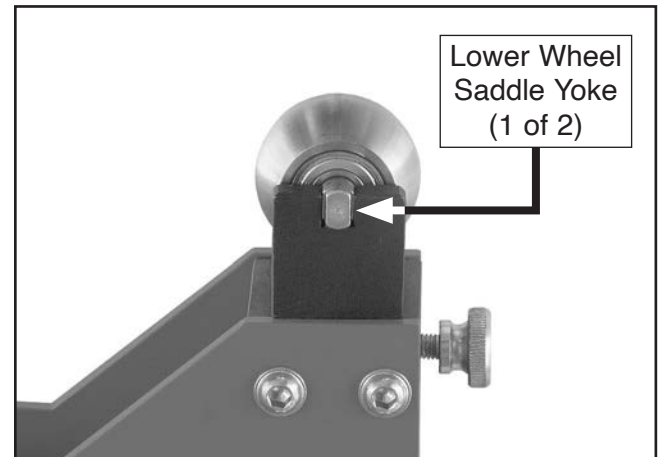

Figure 14. Lower wheel axle fully seated in saddle yokes.
2. Install lower wheel in lower wheel saddle and make sure lower wheel axle is fully seated in saddle yokes (see **Figure 14**).